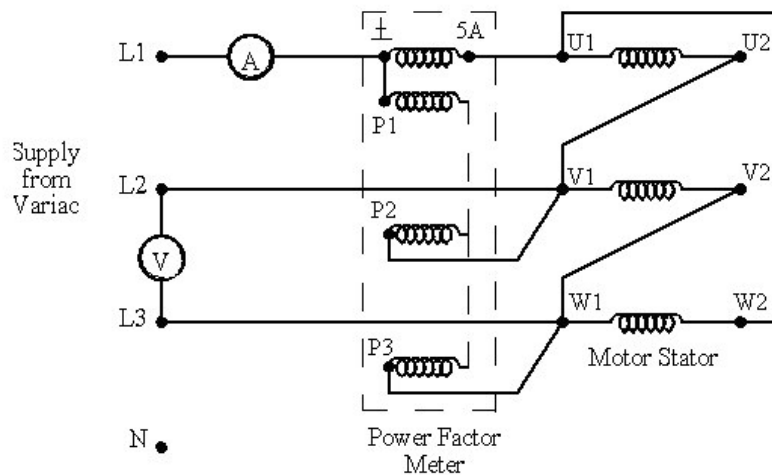

Figure 5 Circuit for Induction Motor Stator
2. Connect the induction motor test circuit as shown in **Figure 5**. Note the three-phase variac provides a reduced voltage at starting and also for the locked rotor test.